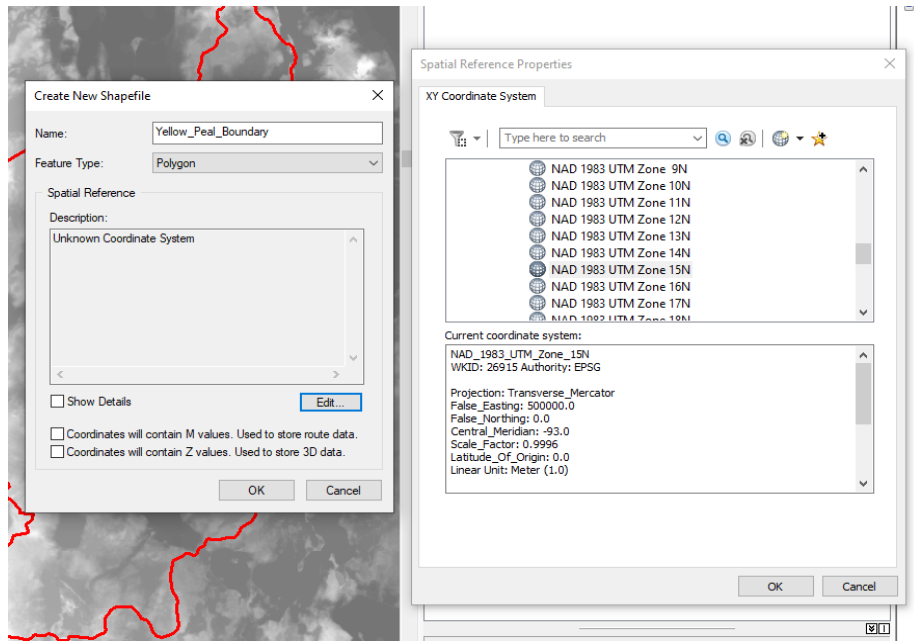

Figure 26. Create New Shapefile
- Click the Edit button to set the correct coordinate system for your project (Figure 26).